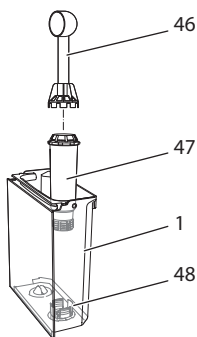

Fig. 25: Screwing/unscrewing the water filter
- Remove the water filter when the appliance requests you to do so (see Fig. 25, page 60).